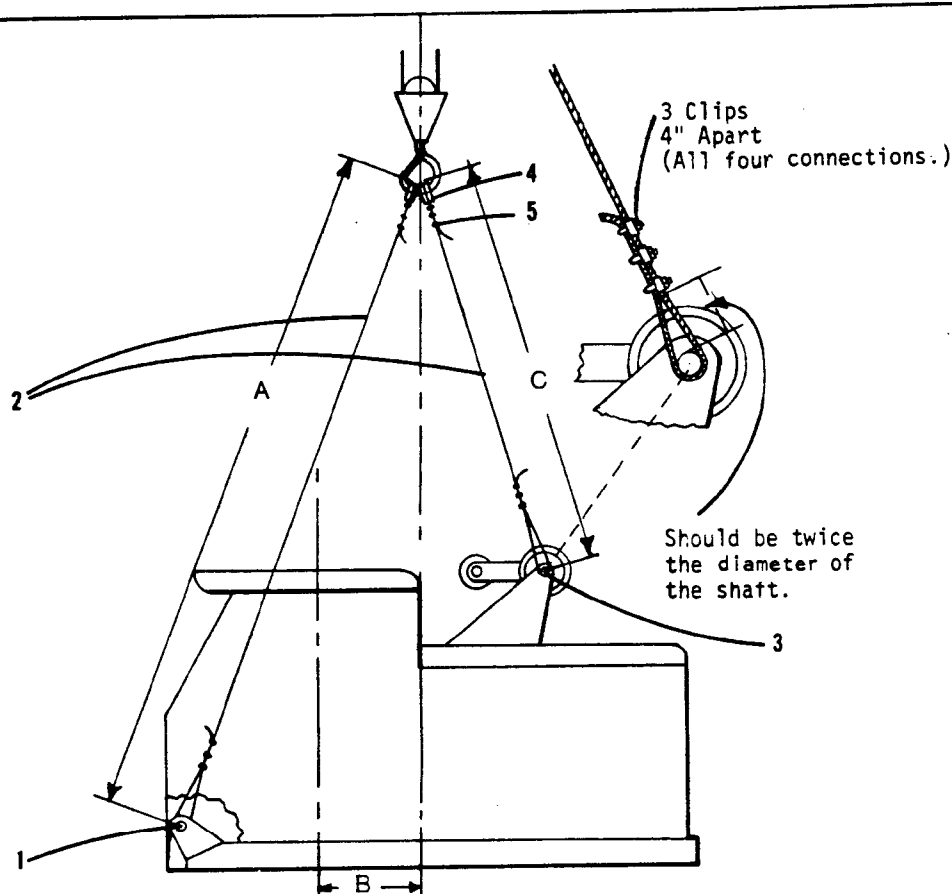

Fig. 1
- (b) Attach slings to upper (See Fig. 1). Connect one leg to each boom foot pin, and one leg to the extended gantry headshaft. (Where the boom backstops mount). Install keeper pins or cotter pins in the boom foot pins to prevent their working out.
to Fig. 1 for more information. See section 14 in operators manual for information of wire rope clips.